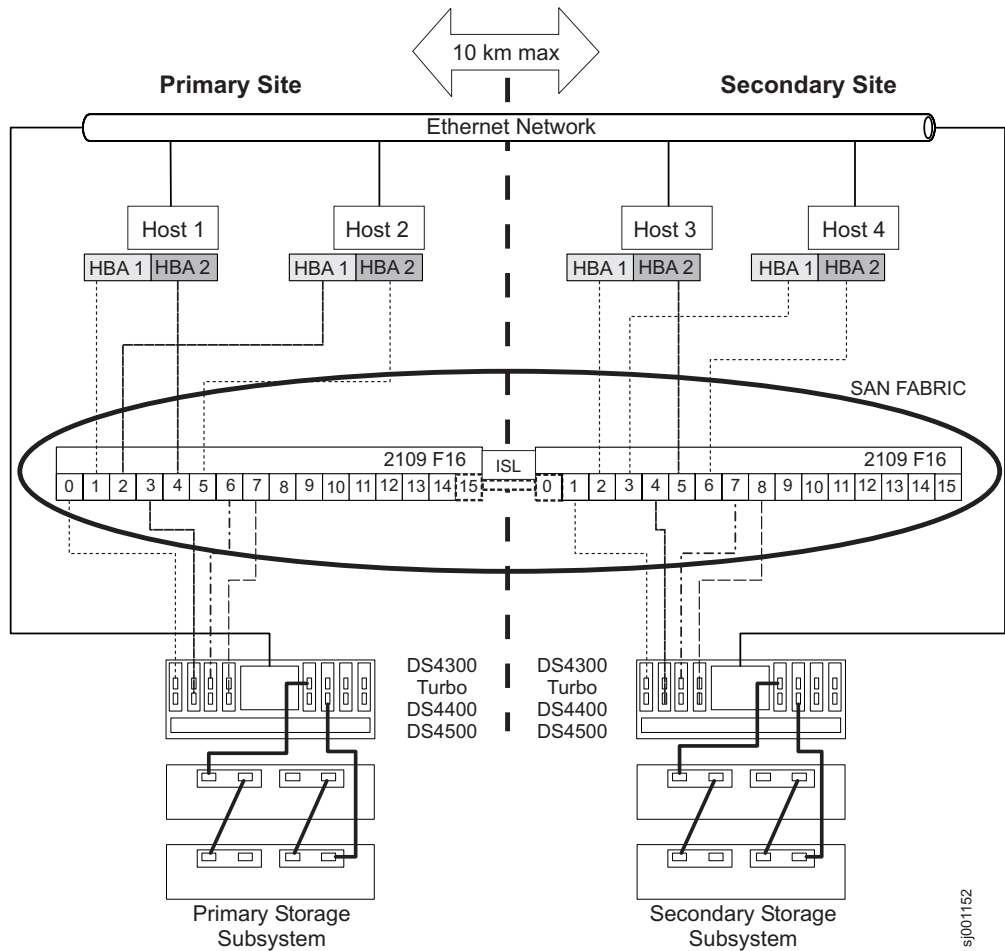

Figure 42. Campus configuration
The Campus configuration offers the same functionality as the Highest Availability Campus configuration, but contains only one switch at each site, rather than two. The configuration is still redundant for host bus adapters, controllers, and remote logical drive mirroring ports, but is a single point of failure for Fibre Channel switches. If a switch at either site fails, the Remote Mirror Option cannot function. For this reason, the Highest Availability Campus configuration is preferred for total environment redundancy. Figure 42 on page 122 shows the Campus configuration after installation is complete.
Important: The Fibre Channel switches in Figure 42 contain 16 ports each, which leaves many unused ports per switch. If you are performing switch zoning using the Fibre Channel host port number, instead of the WWNN of the SAN fabric logged-in ports, do not include Fibre Channel switch ports with no Fibre Channel connections in the zone definition. If you include these unused ports in your zones, unauthorized access to the SAN might result.
- Refer to Figure 42 on page 122 as you complete the steps in this procedure.